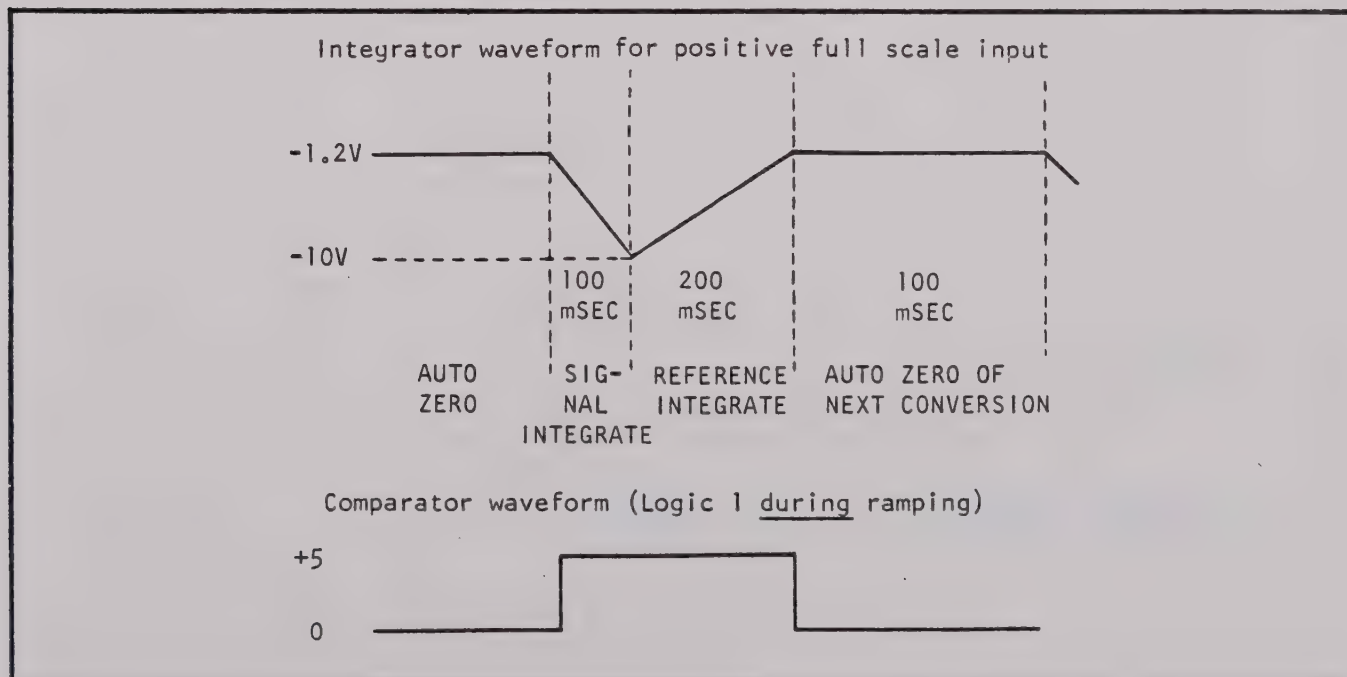

FIGURE 6-2. Integrator and Comparator Waveforms.
* On main printed circuit board (see Figure 6-2).
*On main printed circuit board. See Figure 6-2.
* On main printed circuit board, see Figure 6-2.